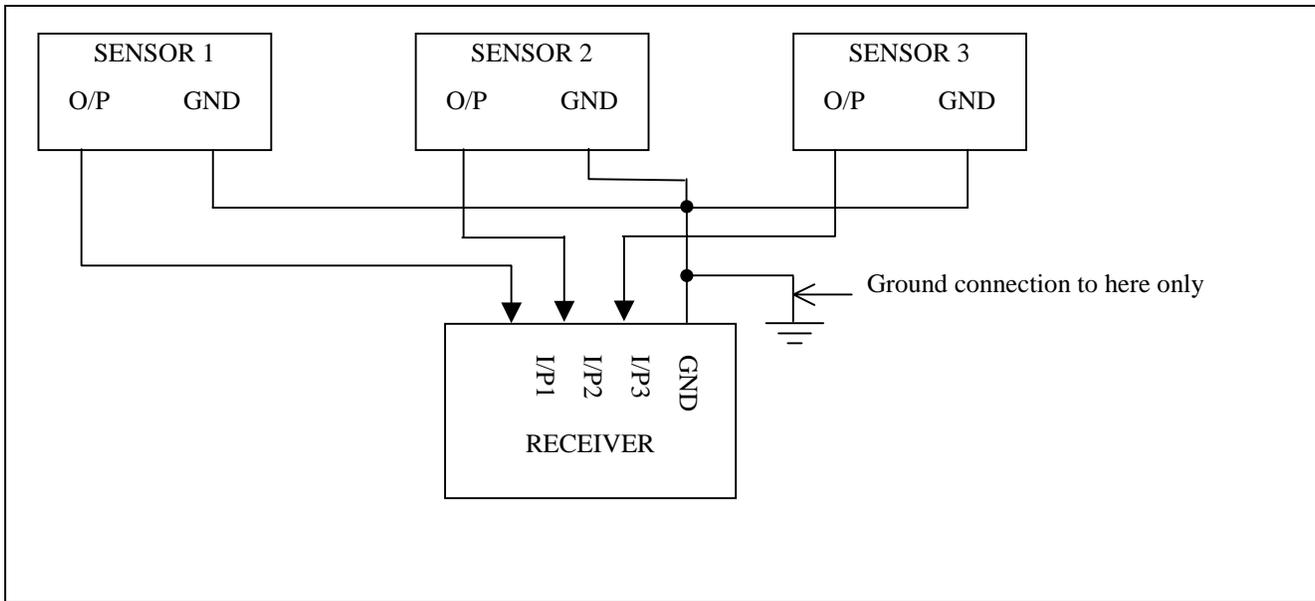

Figure 12 Sensor Ground Connections
- Limit the ground connection to the sensor at the receiver only as shown in Figure 12.